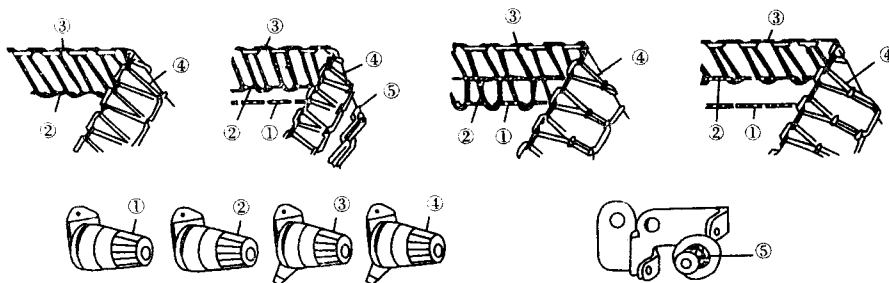

Fig.5
1. Tension Nuts Adjustment. Fig.5
- The tension Nut ① controls the double chain needle thread or left side overlock needle thread.
- The tension Nut ⑤ controls the double chain looper thread.
- The tension Nut ② controls the overlock needle thread.
- The tension Nut ③ controls the upper looper thread.
- The tension Nut ④ controls the lower looper thread.